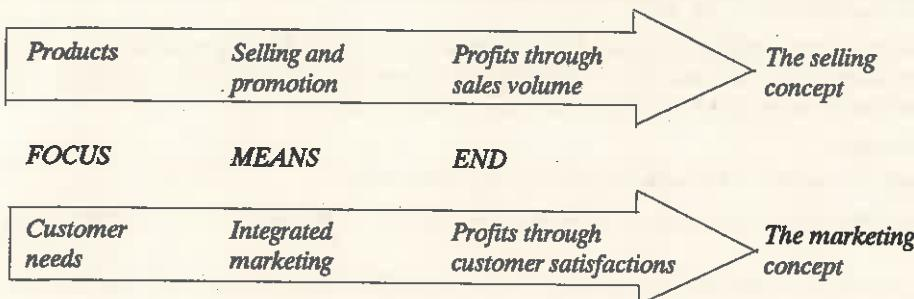

Fig. 31.7. Contrast between the sales concept and marketing concept.
- The selling concept and the marketing concept are generally confused by many businessmen and by the public. The two orientations distinctly differ from each other (Fig. 31.7) for example :